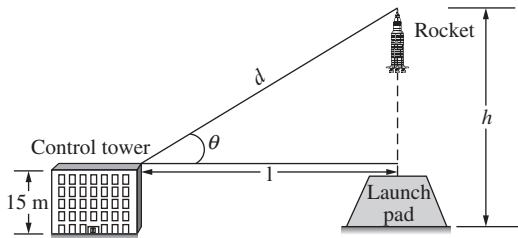

Figure P3.8 A rocket taking off from a launch pad for problem P3-8.
- 3-8.** A rocket takes off from a launch pad located $l = 500$ m from the control tower as shown in Fig. P3.8. If the control tower is 15 m tall, determine the height h of the rocket from the ground when it is located at a distance $d = 575$ m from the top of the control tower. Also, determine the angle θ .